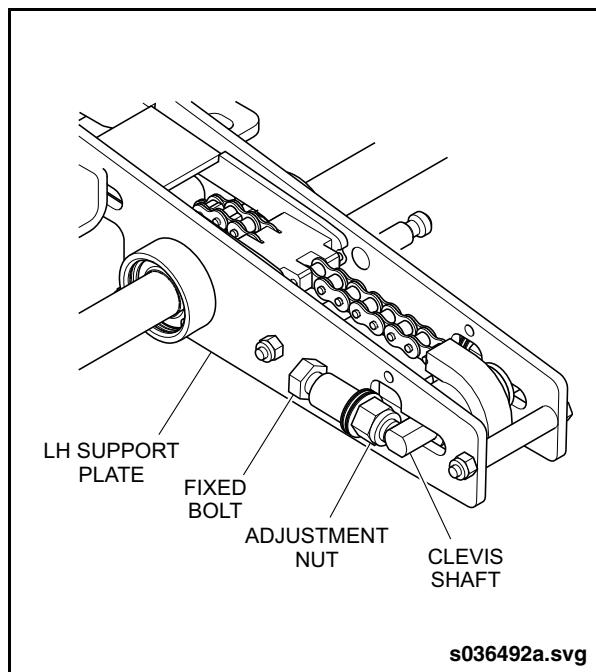

Fig. 20-11: Chain Tension Adjustment
4. Relieve chain tension on the actuating cylinder drive sprockets by loosening the adjustment nuts located on either side of the idler sprocket. See "Fig. 20-11: Chain Tension Adjustment" on page 18.